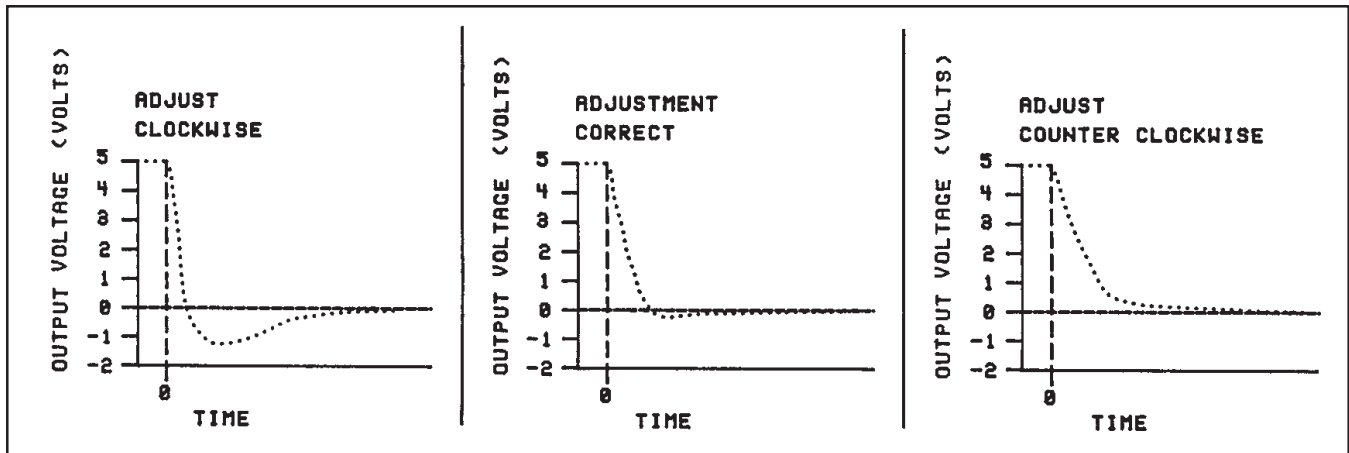

Figure 3-14 Response Adjustment
Note: The output voltage shown in Figure 3-14 is based on a controller equipped with an elastomeric seat. For a metal valve seat a positive offset up to 400 mV can be expected for a zero command.
- c. The behavior of the flow signal during this transition between 100% and zero percent flow indicates the adjustment required of the anticipate potentiometer. Refer to Figure 3-14.